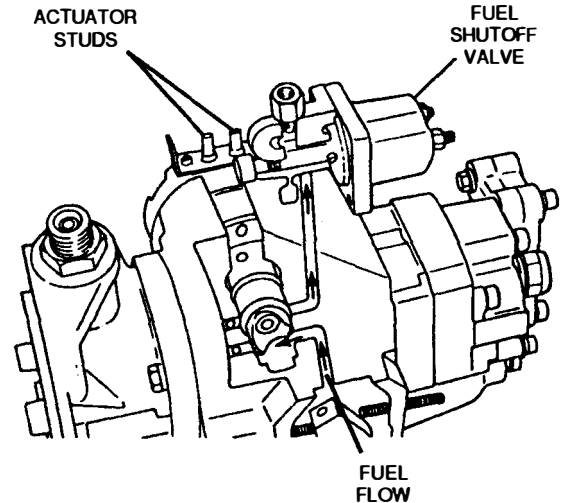

FIGURE 5-20. FUEL PUMP ASSEMBLY
2. Stop generator set, disconnect the leads to the actuator (see Figure 5-20), and connect battery B+ voltage directly to the actuator studs. An audible click in the actuator should be heard when B+ is applied and removed. This check only shows that the actuator is operating (rotating to open and closed position), but not if its binding, further disassembly of fuel pump may be required to inspect/repair O-rings, pump, etc.